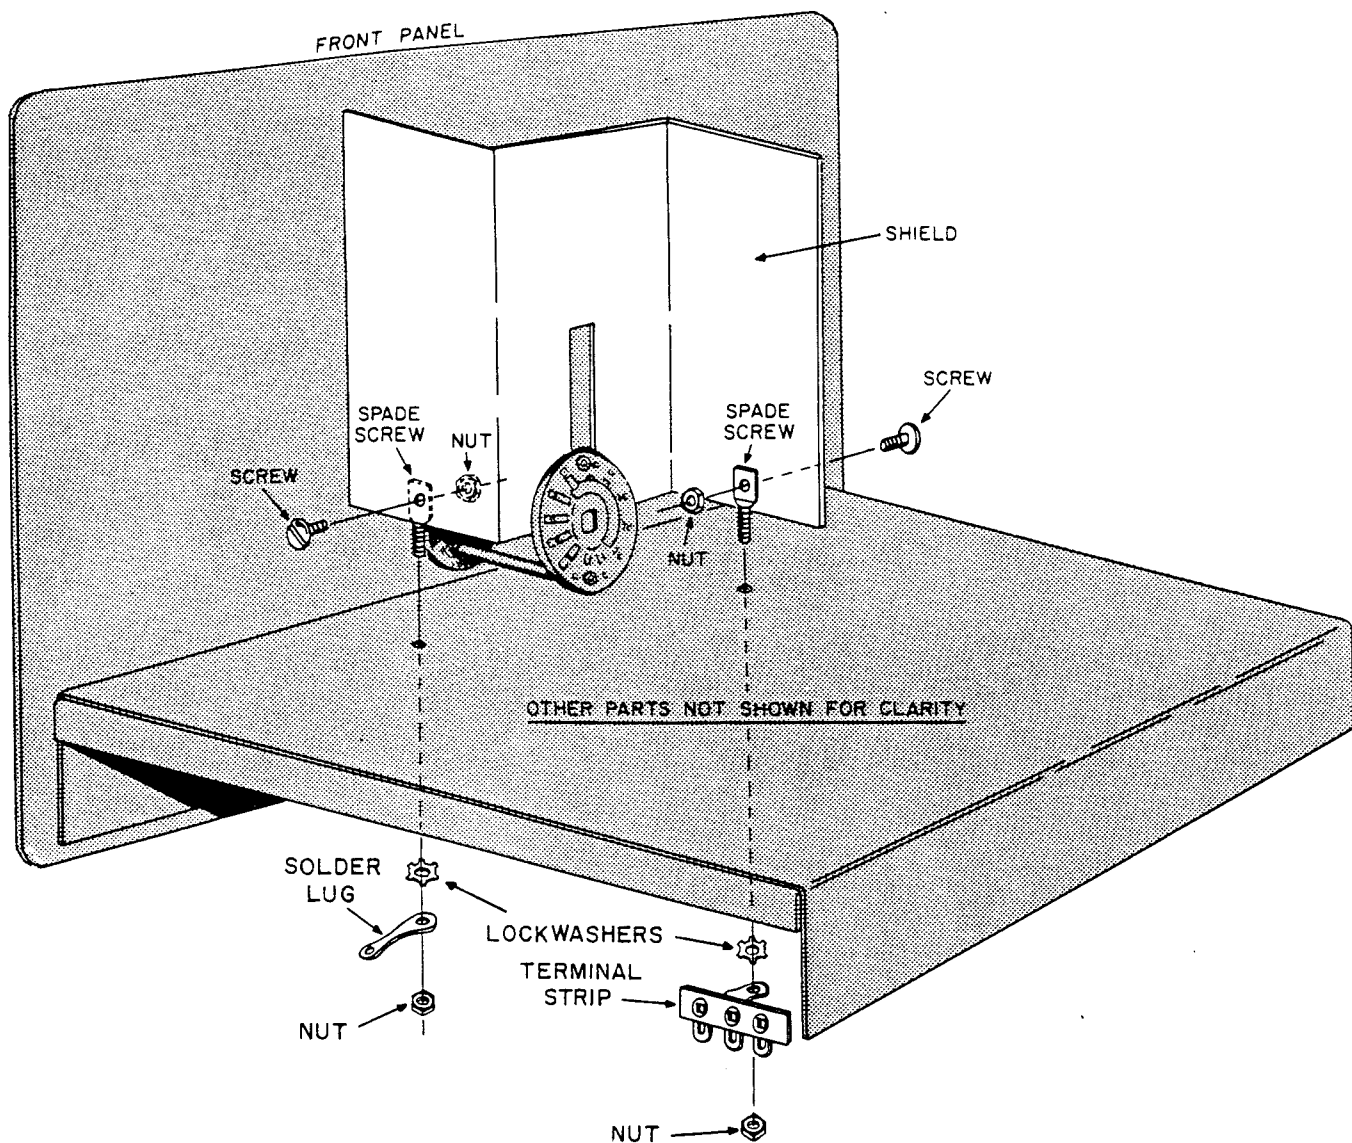

FIGURE 12. HOW TO INSTALL THE SHIELD
- ☐ As shown in Figure 12, install the shield partition. Note that a solder lug and terminal strip TS-4 are mounted with the shield fastening nuts. The spade screws must be attached to the sides of the shield as illustrated in Figure 12.